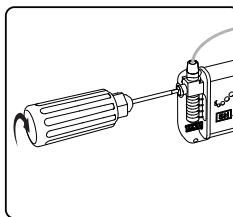

Figure 6: Secure the lead by tightening the setscrew clockwise onto the retention sleeve.
5. Fully insert the torque wrench into the hole of the Neurostimulator connector block. Tighten the setscrew by turning the torque wrench clockwise until it clicks (**Figure 6**).